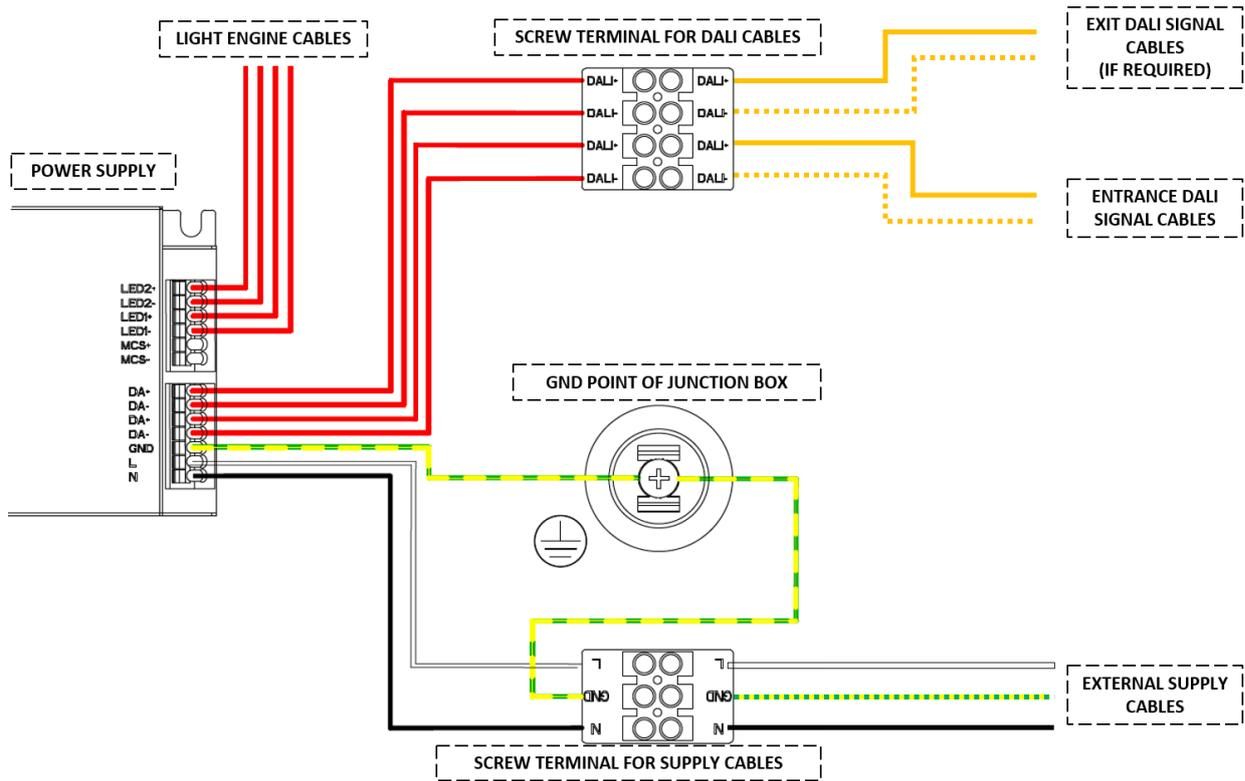

Fig. 20 Electrical diagram for connections with the external supply cabling and DALI.
- C. Connect the external supply cables to the appropriate terminal, as shown in Figure 20 and close the junction box lid.
- B. Connect the external cables for the DALI/SwitchDIM signal to the appropriate terminal, as shown in Figure 20 of the final cabling diagram.